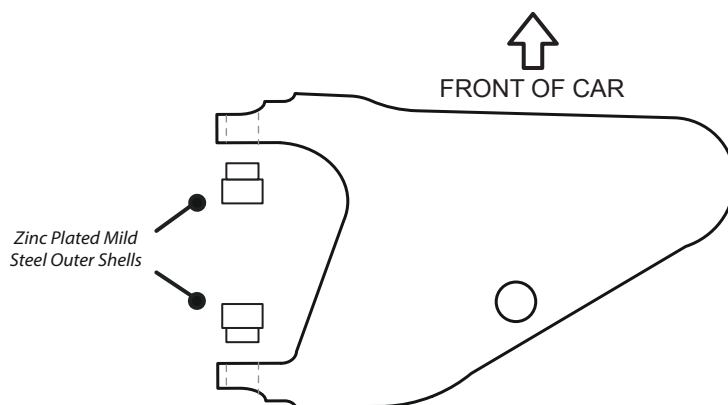

Figure 1 - Diagram showing how to insert the Zinc Plated Mild Steel Outer shells, highlighting the positioning.
2. Insert the two Zinc Plated Mild Steel Outer Shells into the bores of the arm, referring to Figure 1 for information on positioning. **Ensure the long side of the Outer Sleeve is in the inside of the arm, according to Figure 1.**